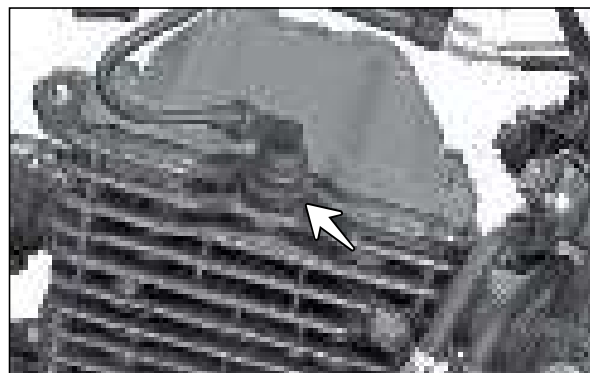

Fig. 3.24
- Disconnect the HT card from the spark plug and remove the spark plug. (Fig. 3.24)